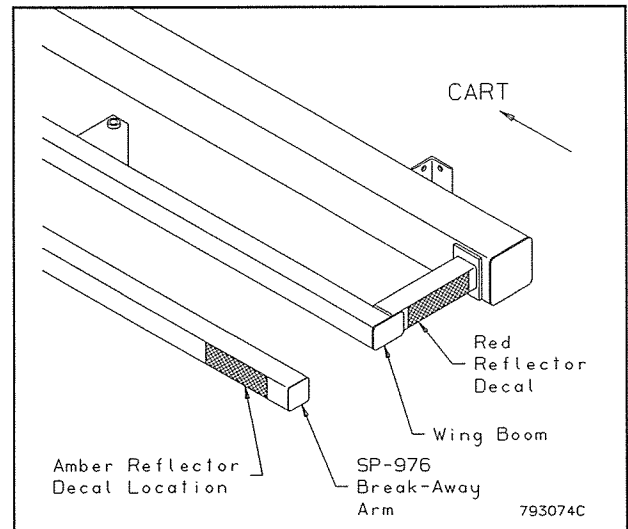

Figure 2.2a: Reflector Decal Locations
4. Check that all safety and informational decals are in place and in good condition, replace if necessary. Locate amber and red reflector decals on ends of both left and right wing booms as shown in Figure 2.2a.